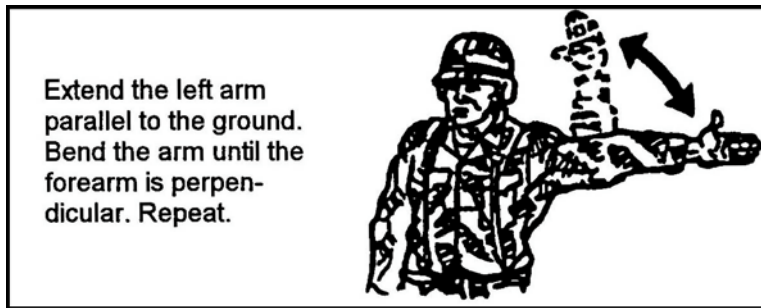

Figure 3. Contact left.
- b. Perform following drill signals: Contact left, contact right, action right, action left, action front (right, left, or rear), air attack, and nuclear, biological, or chemical attack. (Figures 3 through 9).